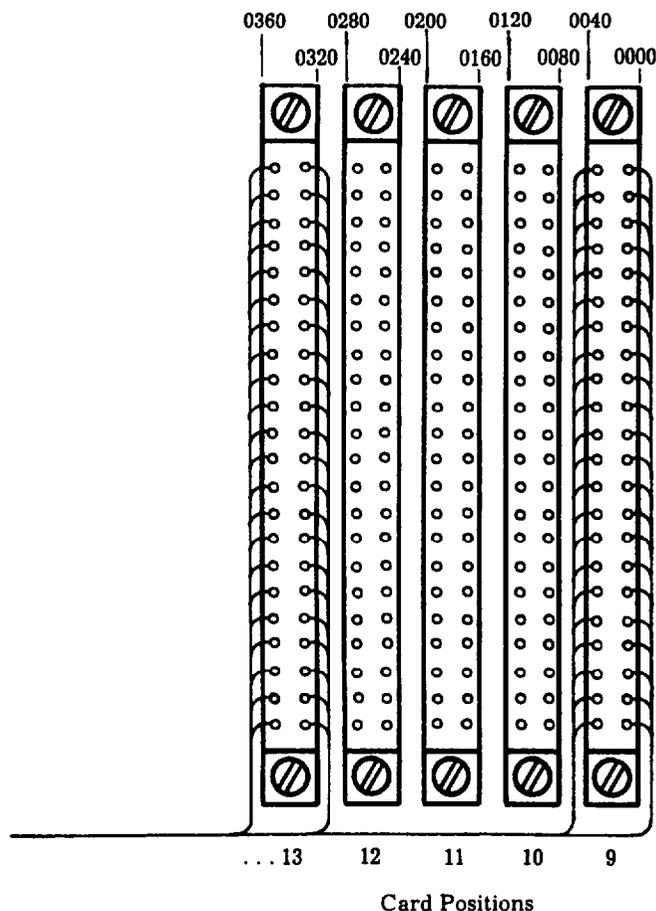

Figure II-6—Typical Input Lead Routing
4.05 All input lead connections are made to the rear panel input terminal field as shown in Figure II-6. Each terminal field is numbered from top to bottom, with input number 0000 corresponding to the first wire, input number 0040 corresponding to the forty-first wire, etc. Input wiring should be 24 AWG twisted pair (standard switchboard cable) and should be formed down the left side of the unit as looking from the rear of the frame. Access to the terminal field is obtained by removing the rear cover.